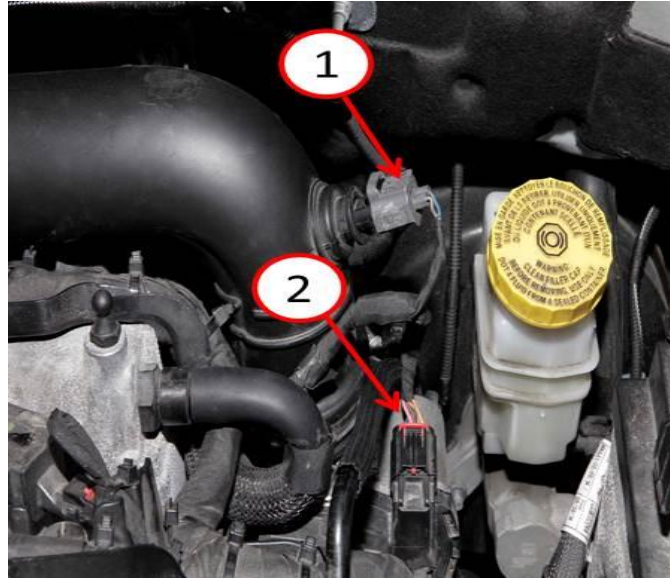

Fig. 2 Location of IAT Connector
4. Disconnect the IAT and lower connectors, see (Fig. 2).